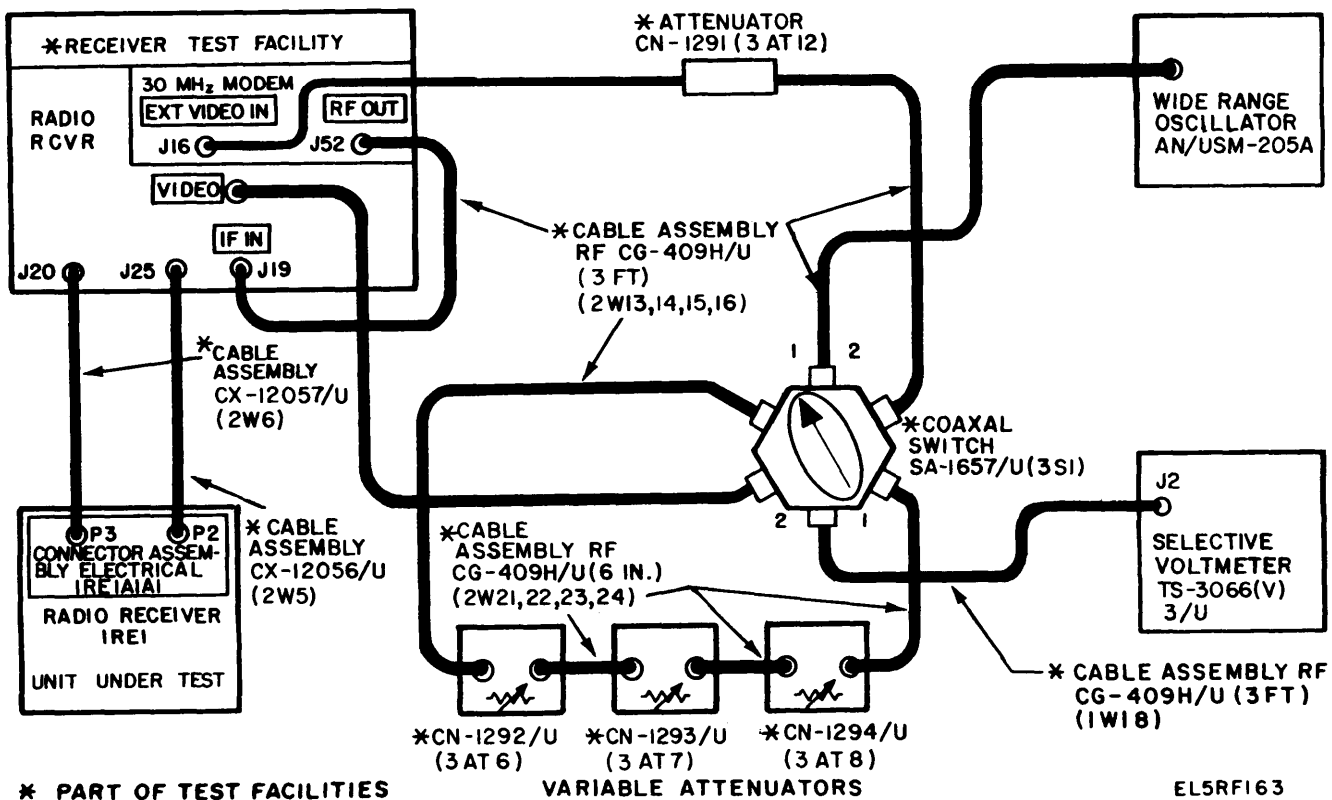

Figure 3-7. ReceiverFixed Head, Video Frequency Response, Test Setup.
1. Connect the test equipment as shown in figure 3-7.